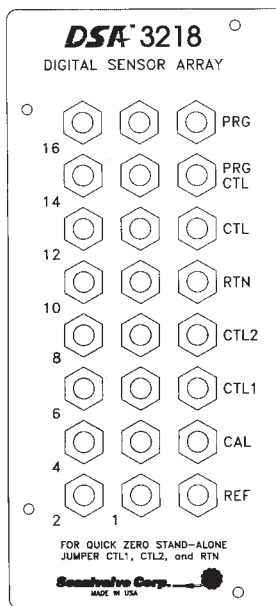

FIGURE 2.8 - DSA3218/16Px TOP PANEL
The basic DSA3218/16Px module provides 16 channels of the same ‘gauge’ pressure range sensors. These 16 pressure transducers are configured into two (2) groups of eight (8) each. Each group of eight (8) transducers shares a common calibration valve and a common reference manifold. Single range modules tie the two reference manifolds together and the two calibration valves to provide the user with a single reference and a single calibration port to connect to. Figure 2.8 depicts the top panel of a standard DSA3217/16Px.